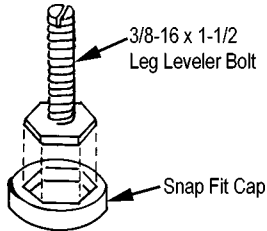

FIGURE 1
1. Assemble snap fit cap to hex head of 3/8-16 x 1-1/2" leg leveler bolt. See Figure 1. (Snap fit cap prevents bookstack units from creeping on a smooth-surfaced floor and can be eliminated if used on a carpeted surface).
1. Assemble snap fit cap to leg levelers (see Figure 1, page 2). Screw leg levelers or carpet pins into T-bar leg base in holes provided. See Figure 16. Screw leg levelers up against bottom of base. (If carpet pin is used, insert as far up as possible without disengaging threads).